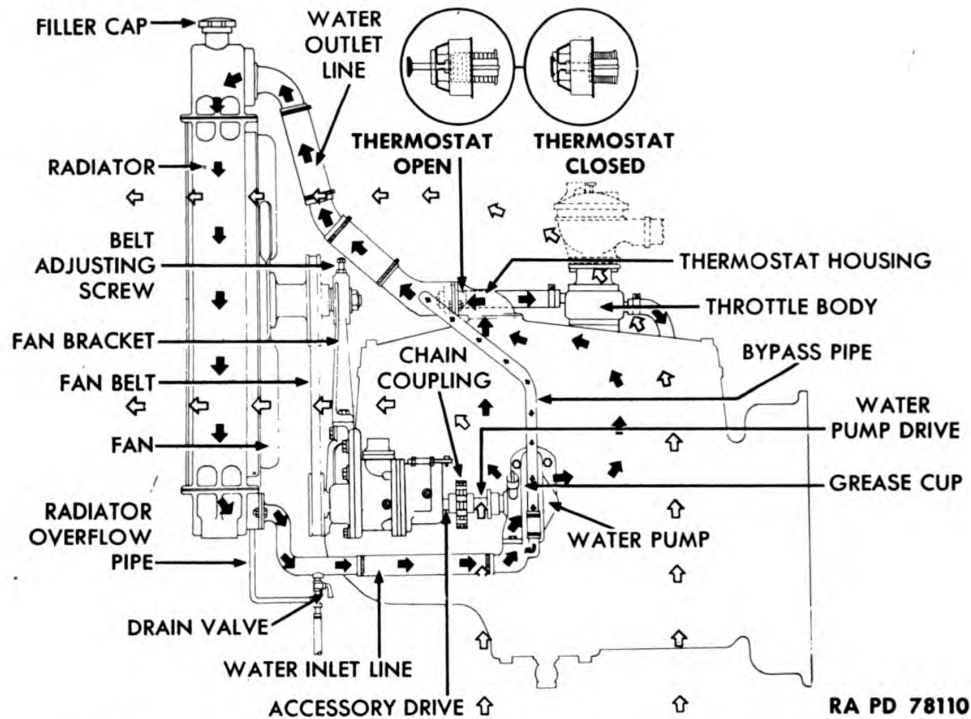

Figure 16 – Cooling System Diagram – Black Arrows Show Water Circulation; White Arrows Show Air Circulation
50. DESCRIPTION (fig. 16).
b. **Functioning.** The impelling force of the water pump circulates the cooled water from the bottom of the radiator through the entire cooling system (fig. 16).